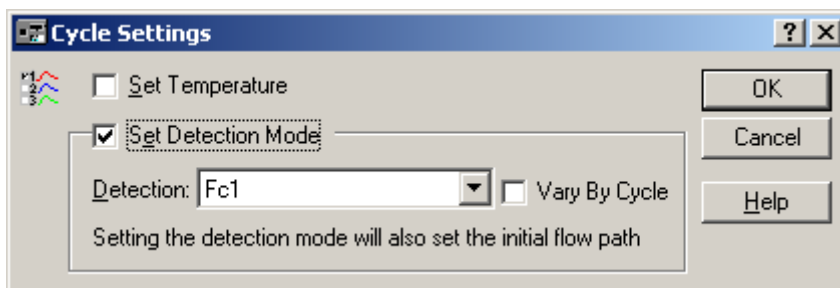

Figure 4.3 Flow cell selection.
- 4.4.2.1 Double click on 'Detection 1' (1 denotes the flow cell number) -Cycle settings (Fig. 4.3) window will open.